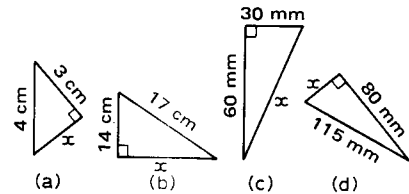

Fig. 1.85
7. Find the side marked x for each of the right-angled triangles shown in Fig. 1.85.